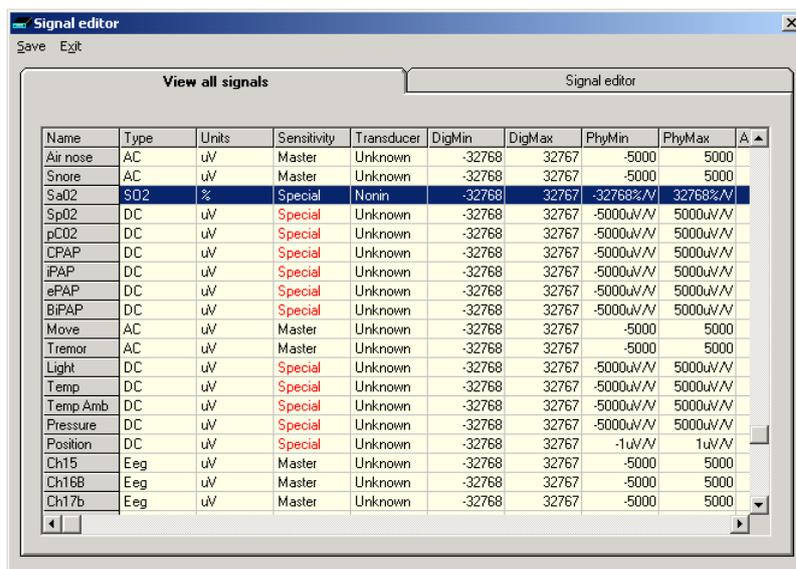

Figure 7 Signal list
- 1 Click the View all signals tab in the Signal editor dialog box. See Figure 7.